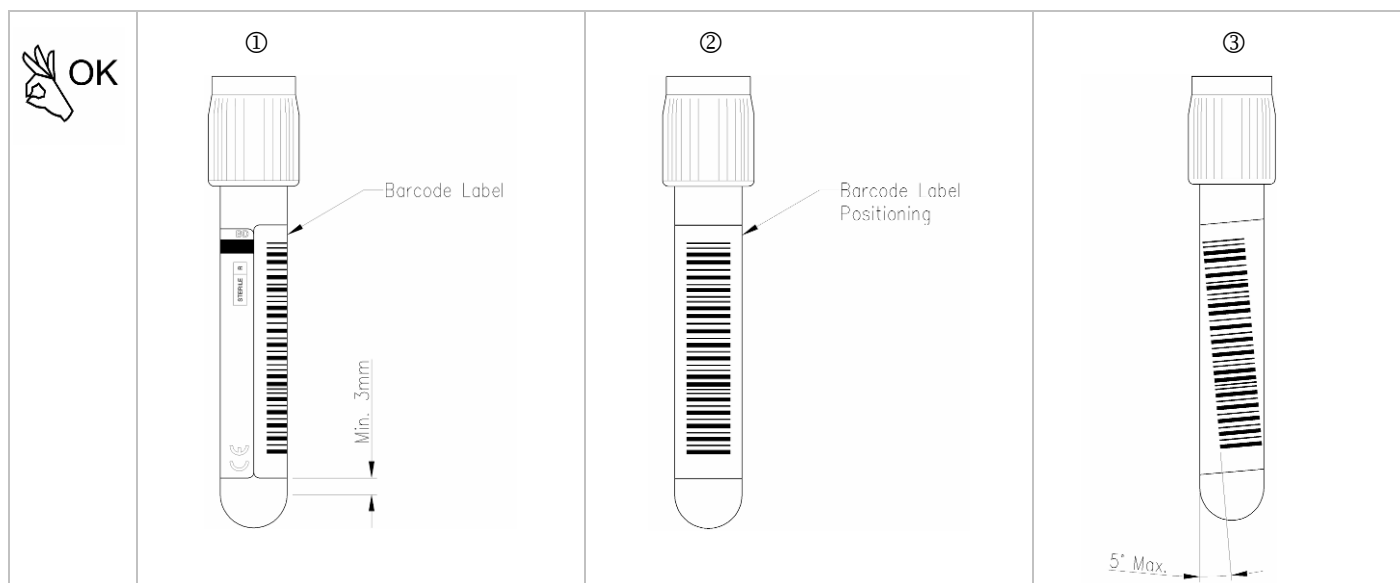

Fig.2 Labelling: compatible heights with Ves-Matic Cube 80
- mechanically set to read labels attached to the tube at least mm.3 above the the start of bottom roundness (Fig. 2, ①).
- programmed to read barcodes placed at 90° degrees compared to the reading rays, that is the barcode must be placed to cross horizontally the tubes vertical axis (Fig. 2, ②).
The reader nevertheless can correctly read sloping barcodes, the slope must be within "-5°" and "+5°" degrees (Fig. 2, ③).